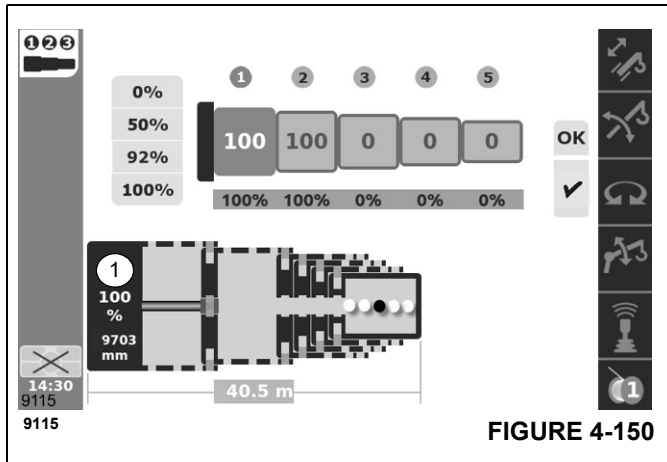
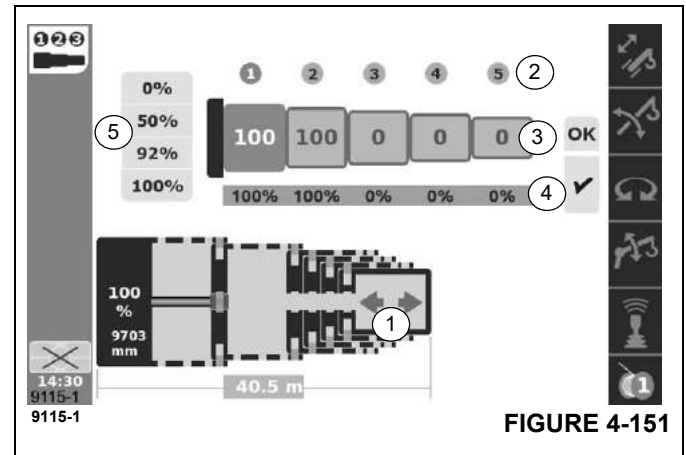

FIGURE 4-150
FIGURE 4-151
The Semi-Auto screen (Figure 4-150) of the operating display shows a graphic schematic near the bottom of the screen that indicates the current status of the boom computed by the control system (however the operator must continue to monitor the status of the physical boom to compare with this schematic). In (1), (Figure 4-150), there is a 100% shown for the position of the telescoping cylinder (above the 9703 mm distance value). The graphical representation of the telescoping cylinder rod protrudes horizontally from the left end of the schematic (near item 1). The end of the graphical representation of the rod at the T1 boom section which is at the 100% pinning location. The
The example in (Figure 4-150) shows the value of 9703 mm for the extension of the telescoping cylinder within the boom. This is the value from the precision length sensor. The example also shows a value of 40.5 meters as the overall boom length. The example shows the T2 boom section had been previously extended and locked at its 100% pinning location. The remaining boom sections are locked at their 0% pinning location (and they were all extended as the T2 boom section extended).
As mentioned earlier, there are times when the control system is performing automated motions. The example in (Figure 4-150) shows some dots at the end of the schematic graphic. These dots, as well as the one dark dot cycling back and forth to the left and right, indicates that automated motions are occurring.
(Figure 4-151) shows the same screen when the operator is able to control motions of the boom sections. In this case, there is a left and/or right pointing arrow (instead of the dots shown in (Figure 4-150)). As is consistent with the schematic's orientation, the left arrow indicates retracting the boom, the right arrow indicates extending the boom. The control device (typically the joystick in the standard joystick option) would be moved to the left to retract the boom, and it would be moved to the right to extend the boom (while keeping in mind that only one boom section - the boom section the telescoping cylinder is locked to - would be moving).
As highlighted in a previous note in this document, the arrows (1), (Figure 4-151), at some point in the telescoping process, will blink. The blinking is an indication that an unlocking or locking event will occur if the operator holds the joystick in the direction of that arrow for at least 1 second. If this event begins, then the screen will change to the dots (as described for (Figure 4-150) so that the operator knows that an automated motion or action is again occurring.
The RCL must be configured and activated in order to have automated motions or to have operator control of the telescoping function. If the Enter Rigging Mode screen on the RCL display is used (accessed with the '?' icon on the RCL display), then the telescoping action is paused. When the check-mark (4), (Figure 4-151) is used on the RCL display to re-activate the RCL, then the telescoping action resumes (whether automated motion or operator control).
As seen in (Figure 4-151), there are sets of numerical values at the top portion of the screen above the graphical schematic of the boom.
The values under these boom section indication numbers represent the requested final boom configuration (or "target tele picture"). (Figure 4-151) shows this set of values as 100-100-0-0-0 (3). This means that T1 is to be extended to its 100% pinning location, T2 is to be extended to its 100% pinning location, and the remaining boom sections remain at their fully retracted, 0%, pinning locations. It is vital that the operator understand that this requested final boom configuration is the first step in operating the pinned boom in the Semi-auto Mode. Everything the control system performs with the Semi-Auto Mode is dependent on this requested final boom configuration.
Second, there is a set of percentage values shown under the requested final boom configuration values. In (Figure 4-151), these are shown as 100%-100%-0%-0%-0% (4). This represents the control system's currently computed actual boom configuration (or "actual tele picture"). This can be understood as what the boom likes "now" (but as mentioned above the operator must be aware of the physical boom to compare to these values). As the boom is operated this computed boom configuration will change (just as the schematic graphic for the boom system will change on the display). But the operator should realize that the requested final boom configuration will not be changing as the boom is operated (it is the final destination for the boom motion).
Third, there is a list of percentages on the left (0%, 50%, 92%, 100%) (5), (Figure 4-151). These percentages are the available pinning locations for the boom sections. They represent an extent of the distance along the next larger boom section where the boom section can be pinned - i.e. locked to the next larger and encompassing boom section. The 100% is not the extreme end of the next larger boom section, but the farthest available pinning location (there will always be some overlap between boom sections). The list of percentages are command buttons in the control system interface; a value can be highlighted, and then an Enter button used to actually select the value in the list. When an Enter button is used in this manner, it sets all the values for the boom sections for the requested final boom configuration to that value. For example, if Enter is used on the 50% button, then all the values in the top row of the display will be set to 50 (thus requesting the final boom configuration of 50-50-50-50).
- Using the operating display, the Enter button is used for the OK shown on the screen. This sends the requested data to the control system. If this configuration is considered acceptable, a check-mark will be shown below the OK (as is seen in (Figure 4-151)). If the configuration is not considered acceptable, a red X will be shown instead of the check-mark. As an example, a requested final boom configuration of 0-50-0-50-0 is not allowed (the T3 section was "skipped" for having a non-0% pinning location).
- Once the boom section is unlocked, the telescoping direction arrows, as shown in (Figure 4-151), will appear.
- When the T1 boom section is unlocked, the left and right telescoping direction arrows will appear again (as is shown in Figure 4-151).